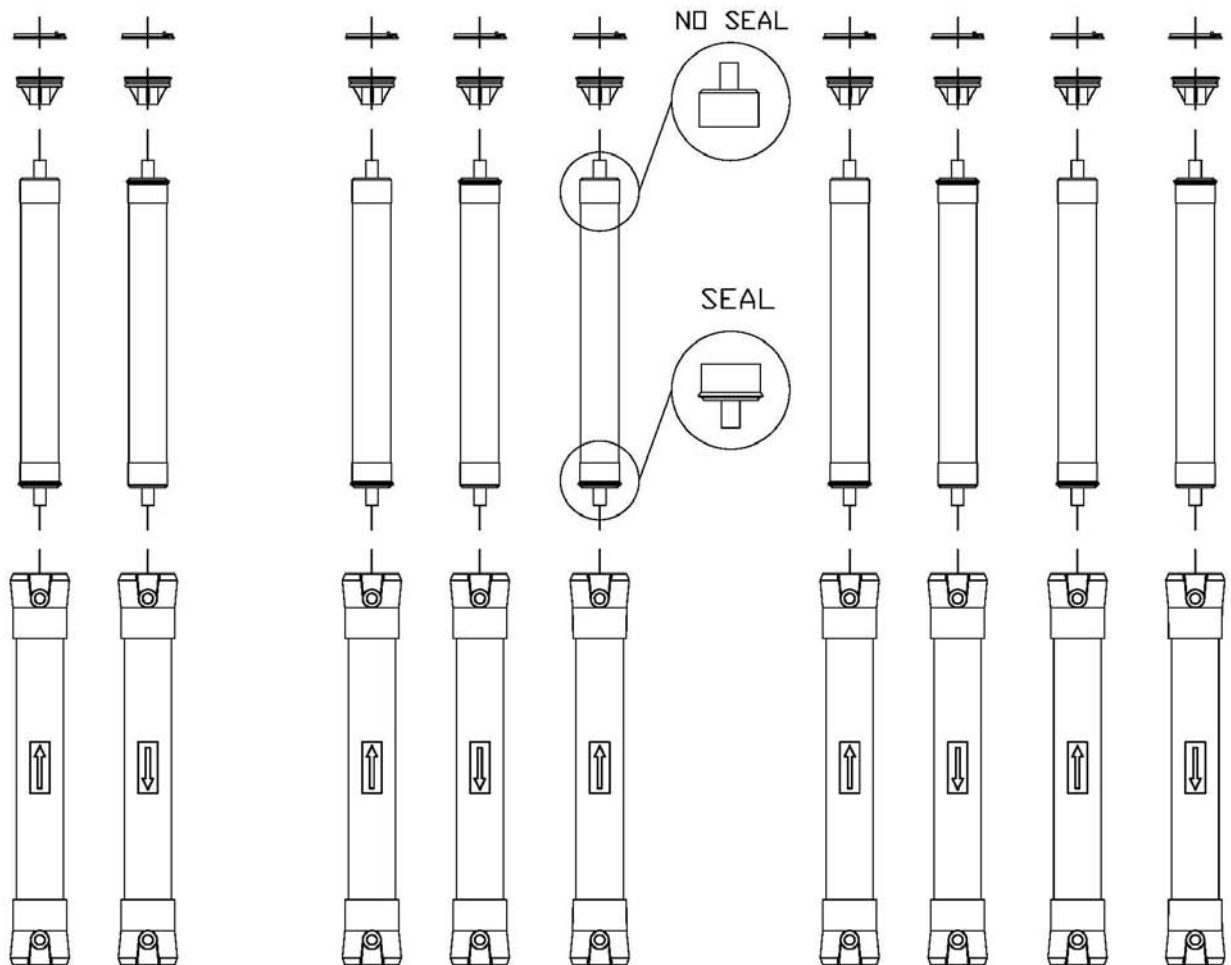

FIGURE 4
5. Flow directions should be observed for installation of each element into each housing. (Figure 4, Page 30)
3. Install the brine seal side of the membrane element first (Figure 4, Page 30). When the housings have a direction of flow from bottom to top, the brine seal should be located at the bottom of the housing.